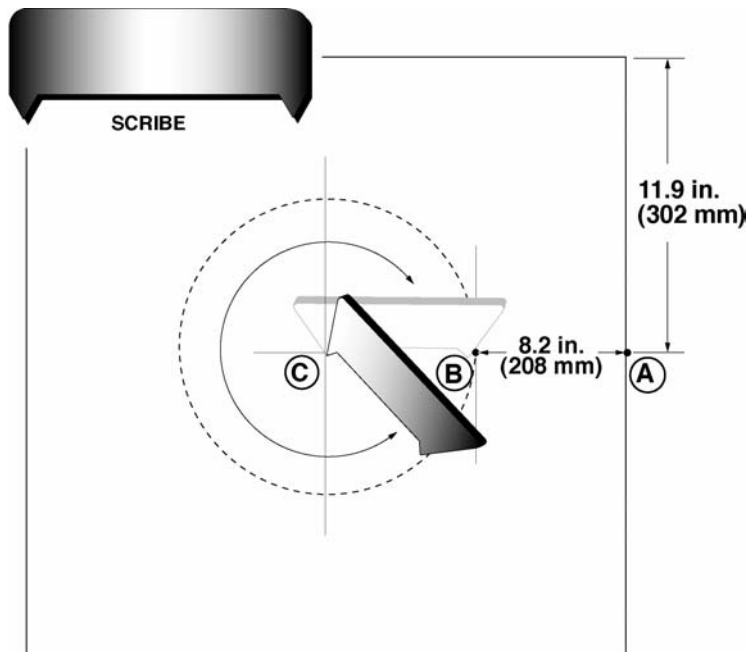

Figure 1
2. Measure and make a small mark at position **A** from any corner (11.9 in./302 mm). Refer to Figure 1.